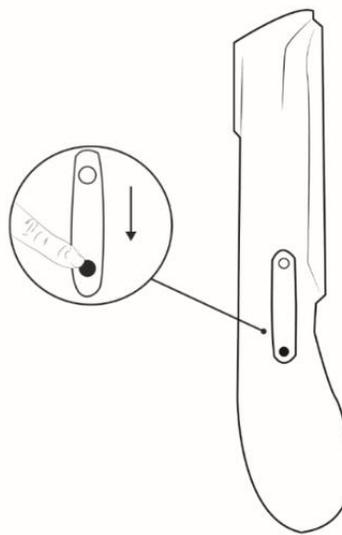

Figure 6:
1. Toggle the Rocker Switch to its “down” position (Figure 6).